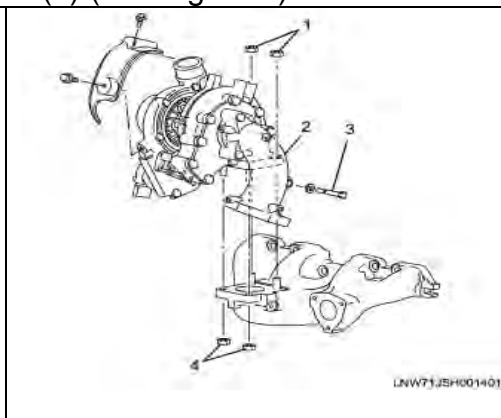

Figure 6
6. Remove the two turbocharger clamping nuts (4) (see Figure 6).
12. Remove the turbocharger with the exhaust adapter (see Figures 6 and 10).
- Remove the turbocharger clamping nuts (1).
- Remove the exhaust adapter mounting bolts (3).